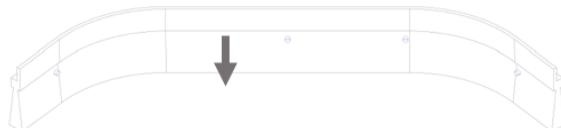

FIG.29
**Notice:** To clean the bristles properly, it is essential to brush in the direction of the bristles, as shown by the arrows in FIG.29.